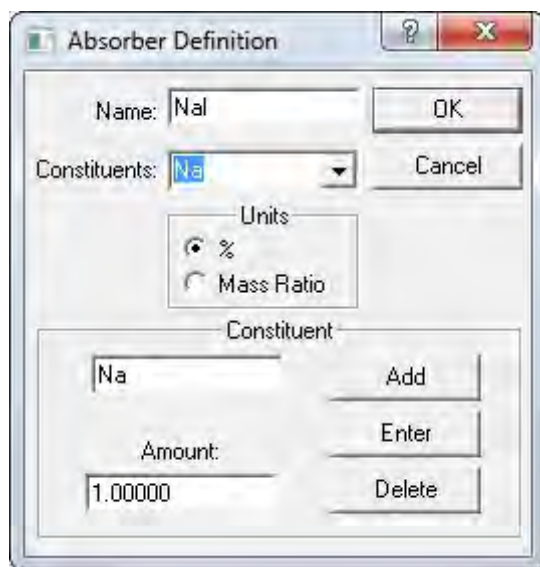

Figure 148. Defining a New Absorber.
- 2) Click **Add**. This will open the Absorber Definition dialog (Fig. 148).
- In the **Constituent** section, enter Na and an amount of 1, then click **Add**. The **Constituent** droplist in the upper part of the dialog will now list Na as a component of NaI (Fig. 148).